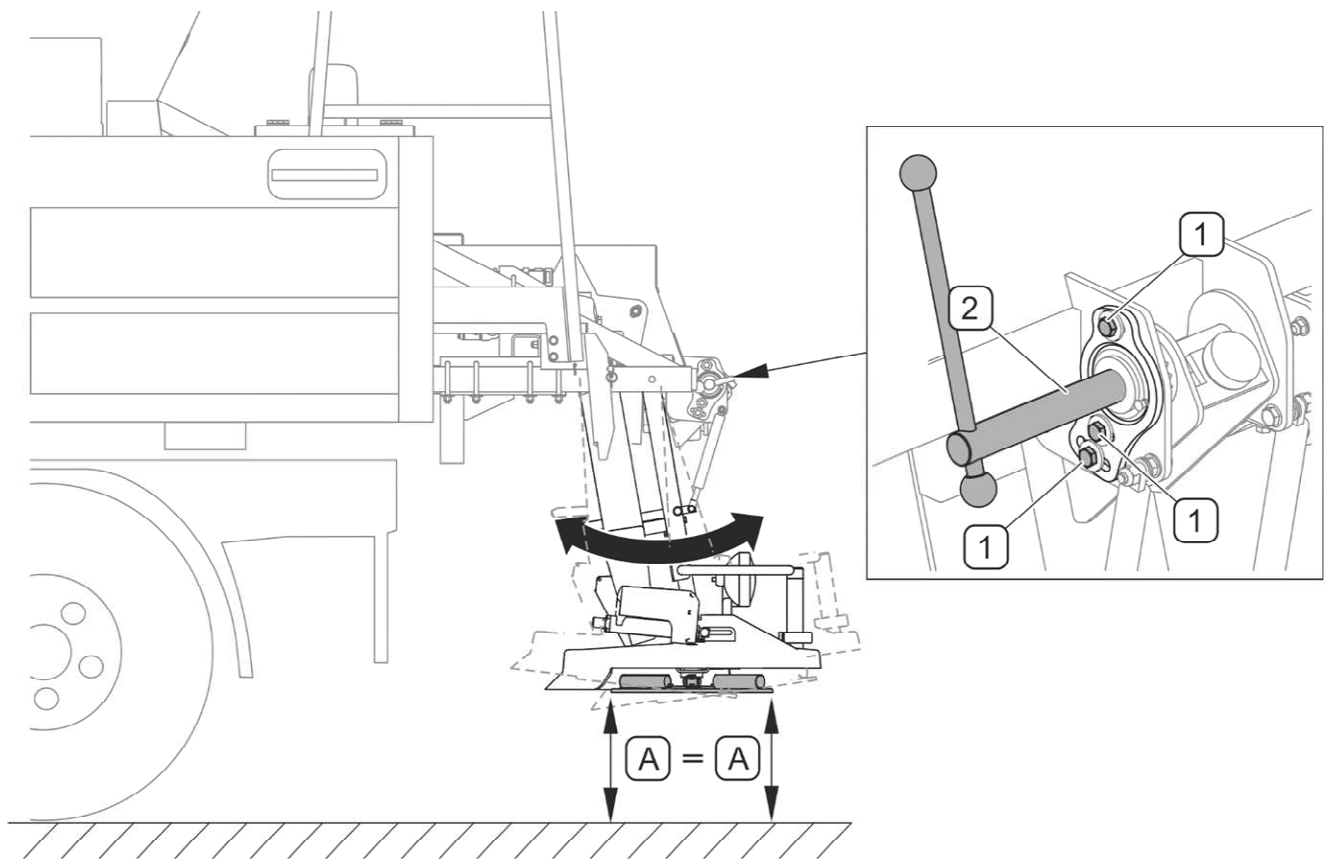

FIGURE 4.16 Levelling the spreading disc
(1) - M10x35 bolt; (2) - clamp bolt
During operation, the spreading disc should be levelled. To check that the spreading disc is level, measure the distances between the disc and the ground in two extreme points (A) to confirm that the distances are the same (FIGURE 4.16). Otherwise, make adjustment as follows:
- check that clamp bolt (2) is tightened,
- loosen three bolts (1),
- shift the spreading mechanism forwards or backwards in order to set the spreading disc in such a manner that distances (A) are the same,
- tighten bolts (1).